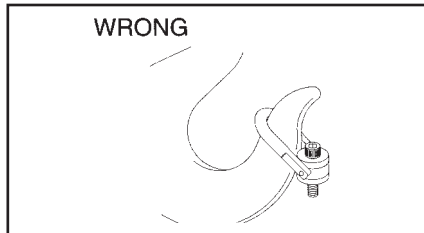

Figure 1
- Attach lifting device ensuring free fit to hoist ring bail (lifting ring). (Fig. 1)